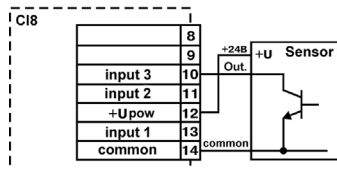

Figure 2
- contacts of buttons, switches, relays, reed switches, etc. (figure 2);